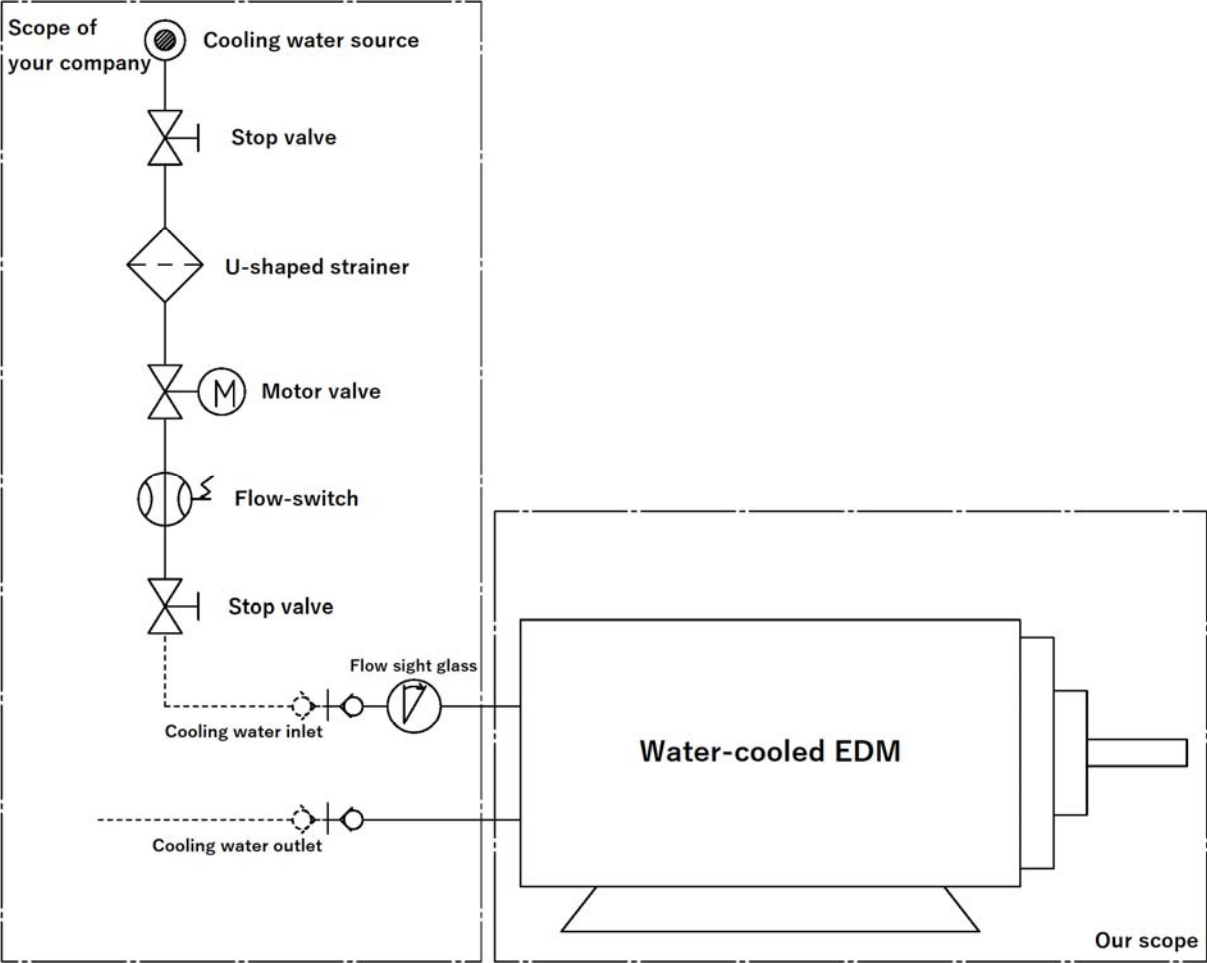

Fig. 10 Reference diagram Water cooling circuit
(1) The water-cooling circuit for the motor (reference diagram) is shown in Fig. 10.